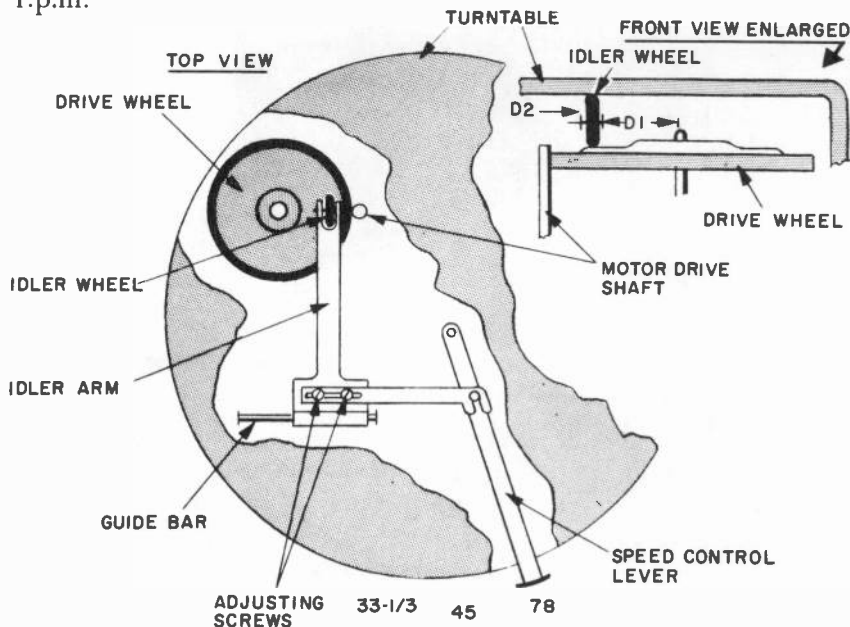

Fig. 314. Continuously-variable drive assembly shown in 78 r.p.m. position. Speed adjustment with stroboscope disc is described in the text.
A drive assembly of this type is pictured in Fig. 314. As the illustration shows, the drive wheel is rather large and is rim-driven
by the motor drive shaft. Contrary to other drive methods, though, the turntable is not driven at its rim. Instead, the top surface of the drive wheel is coupled, by means of a small idler wheel, to the underside of the turntable. Therefore, the biggest determining factors of the reduction ratio are *the diameter of the drive wheel at the position of the idler wheel and the diameter of the turntable at the position of the idler wheel*. If we set the speed-control lever at 78 r.p.m. the idler wheel will move to the position shown in Fig. 314. As the drive shaft turns the drive wheel, only diameter D1 is coupled by the idler wheel to diameter D2 of the turntable. This particular ratio would result in a turntable speed of 78 r.p.m.
7. Without changing the position of the drive and idler wheels, loosen the speed-control lever adjustment screws (Fig. 314).